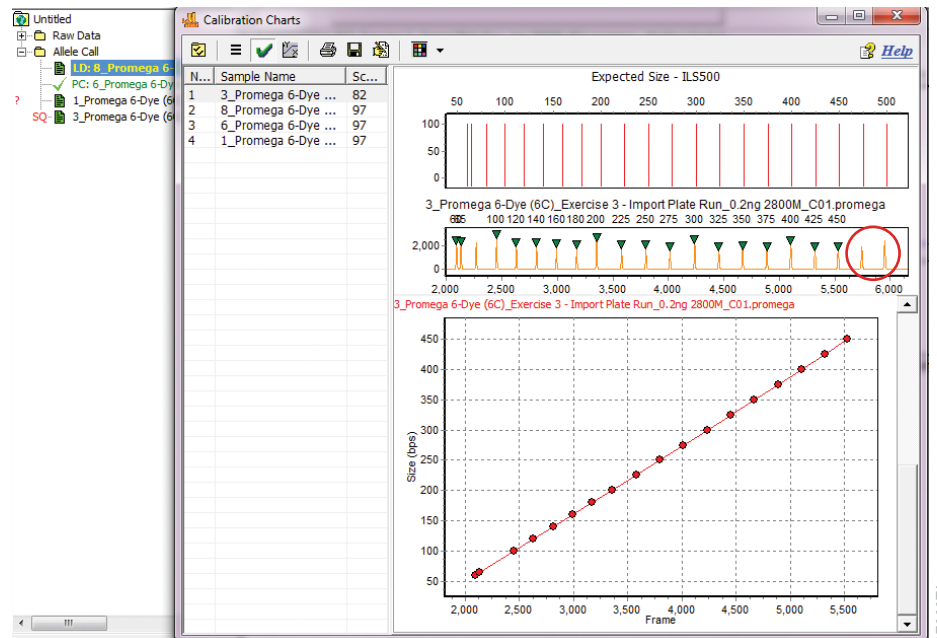

Figure 183. Sample size standard with two peaks (red circle) outside of the expected size calibration linear range.
- Samples with one or more size standard fragments outside of the expected linear range for size calibration (Figure 183).